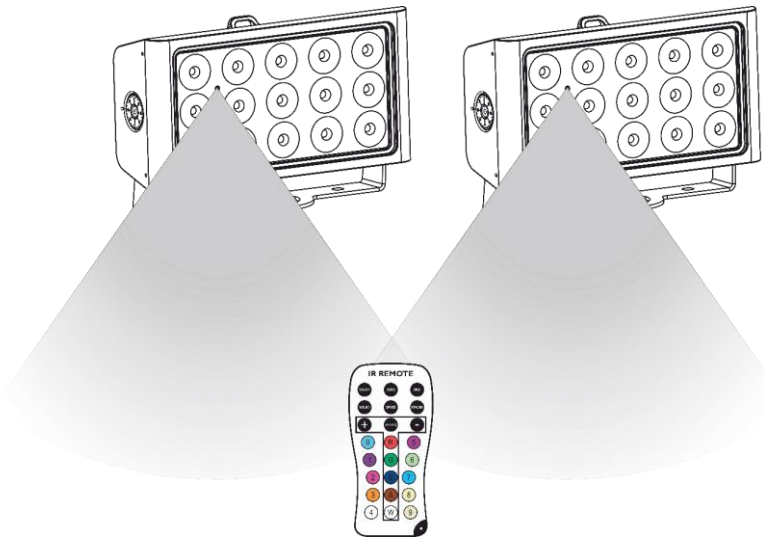
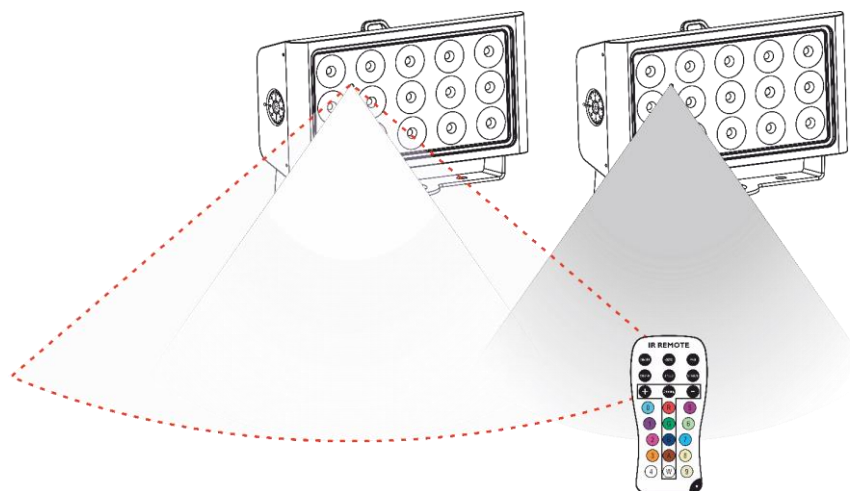

Fig. 11
Fig. 12
You can control several devices at the same time with the remote control. Make sure that you point the remote control to the **infrared sensor (01)** of the device or group of devices that you want to control, as shown in Fig. 11. If you point the remote control to the **infrared sensor (01)** of the device outside of the range of the sensor, the device will not respond to the remote control (Fig. 12).